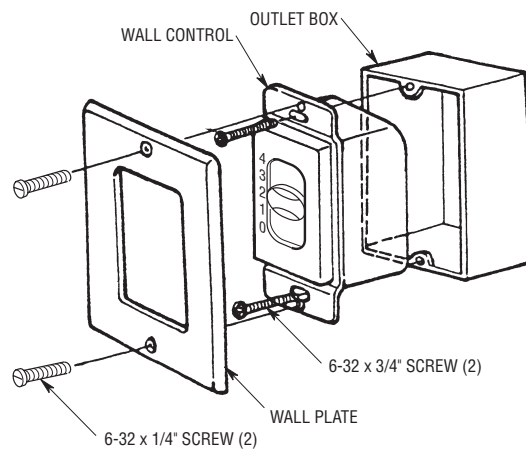

Figure 17
- 8. Position the wall plate (provided with control) onto the speed control. Using the two 6-32 x 1/4" screws, fasten the wall plate to the control (Figure 17).